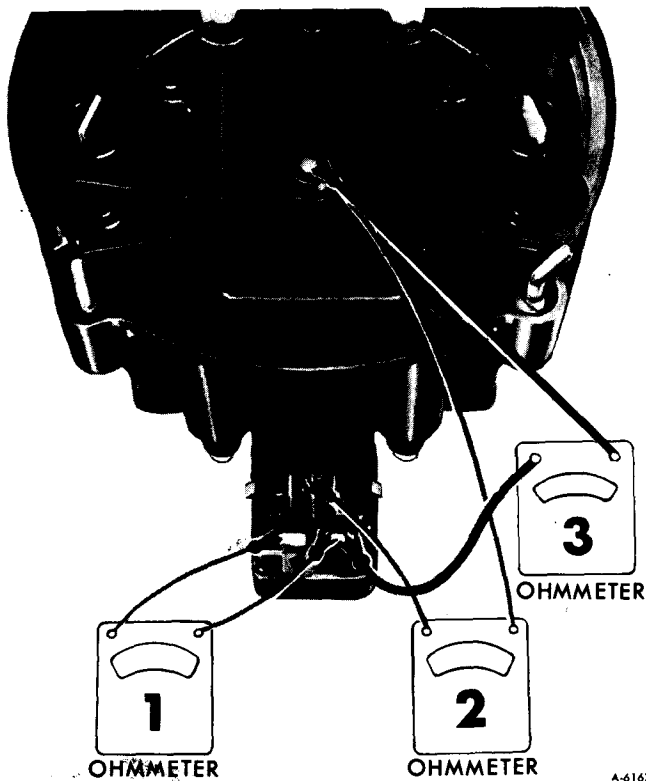

Figure 15—Ohmmeter Check of Ignition Coil
3. Check primary coil. Connect ohmmeter as shown in figure 15, step 1. Use low ohmmeter scale and the reading should be zero; however, if it is not, replace the coil.
4. Check the secondary of the coil by connecting an ohmmeter as shown in figure 15, step 2. Using the high scale of the ohmmeter, the reading should be high but not infinite. If the reading is infinite, check the distributor cap and carbon button for arced or burned condition. If the cap and rotor button are not defective, replace ignition coil.
5. As shown in figure 15, step 3, check the primary and secondary in order to determine if they are shorted together. The ohmmeter reading should be infinite. Refer to figure 8 for additional information.
7. Check primary of ignition coil in cap for continuity with an ohmmeter. (Refer to figure 15, step 1.) Reading should be zero or near zero. If not, replace ignition coil. After coil is replaced, proceed to steps 10 and 11.
8. Check secondary of coil (figure 15, step 2.) Use high scale. Reading should not be infinite. If everything checks good to this point, the HEI system is good.